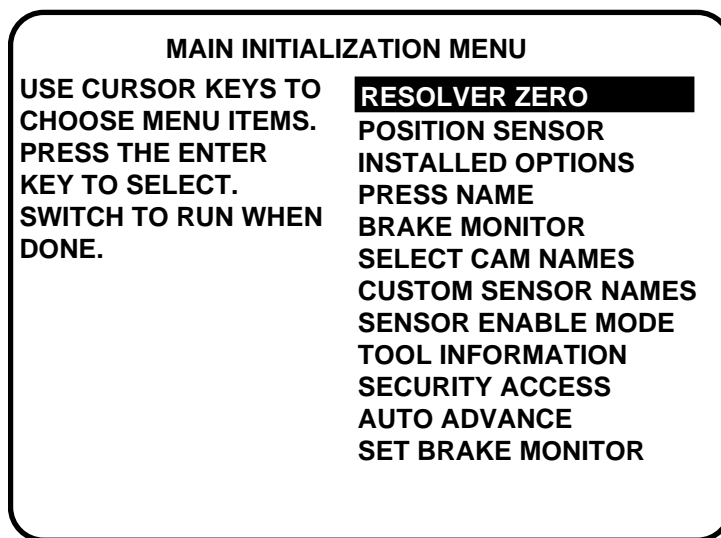

Figure 2-15. SmartPAC Initialization menu
1. Select "Resolver zero" from the Initialization menu (Figure 2-15). This is the first choice on the menu. ("Resolver zero" may already be highlighted.)